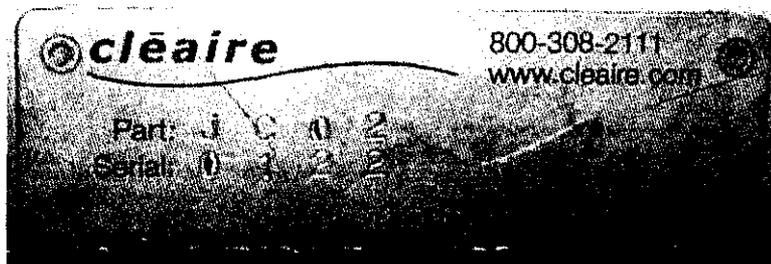

Figure 15. Cleaire Serial Plate.
2. The part number and serial number of each catalyst module (see Figure 15).